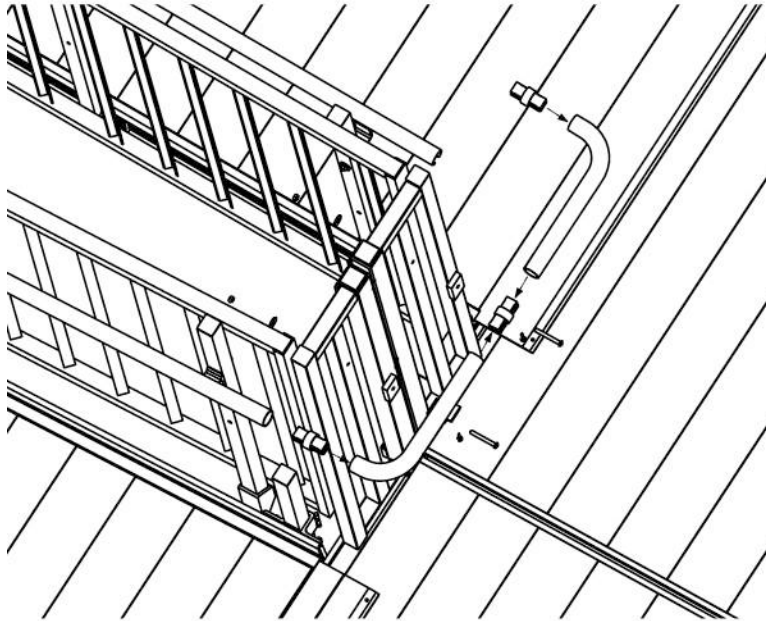

FIG. 43
- 8.6 At a turn-back platform on the inside, turn-back side (FIG. 43):